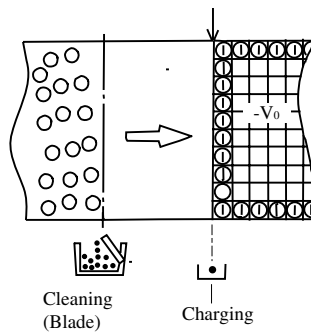

Fig. 4-12
4.2.3.1.2 Process of Charging (see Fig. 4-12)
(see Fig. 4-12)
An invisible electrostatic latent image is formed on the OPC belt (see Fig. 4-12).